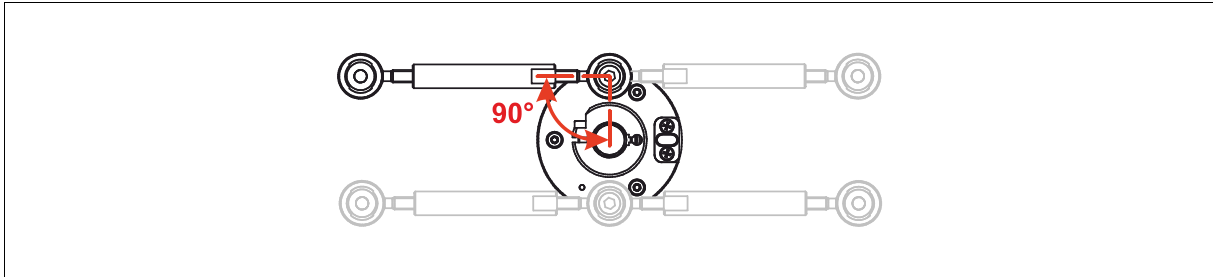

Figure 13: Joint rod mounting variants
- For mounting on the measuring system, the joint rod can be screwed to one of the two M5 threaded holes in the flange. For optimum support of the measuring system, the joint rod must be mounted at a 90° angle to the line connecting of the threaded hole to the center of the shaft, see Figure 13.